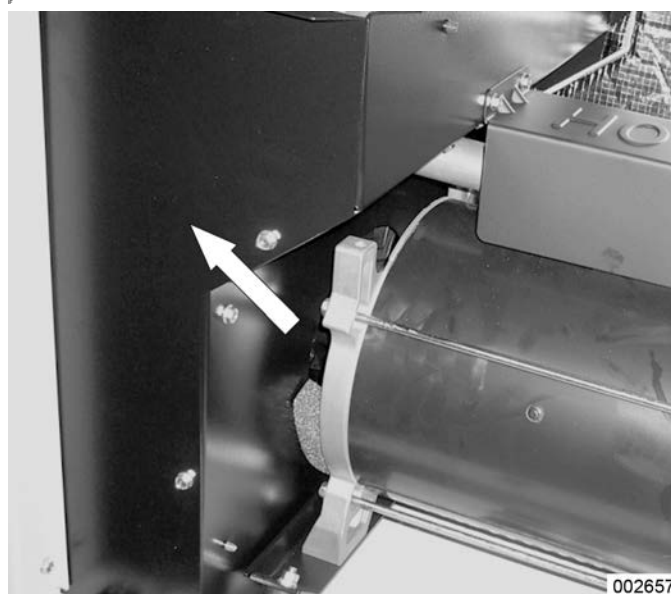

Figure 6-24.
3. **Remove Side Exhaust Enclosure Cover:** See Figure 6-24. Use a 10mm socket to remove the five bolts from the exhaust side cover. Remove side covers.